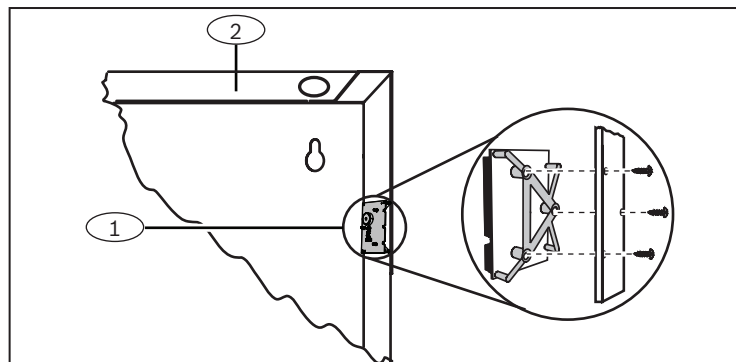

Figure 3.1: Installing into an enclosure
1. Insert the 3 supplied screws into the exterior, upper-right side of the enclosure. Refer to *Figure 3.1*.